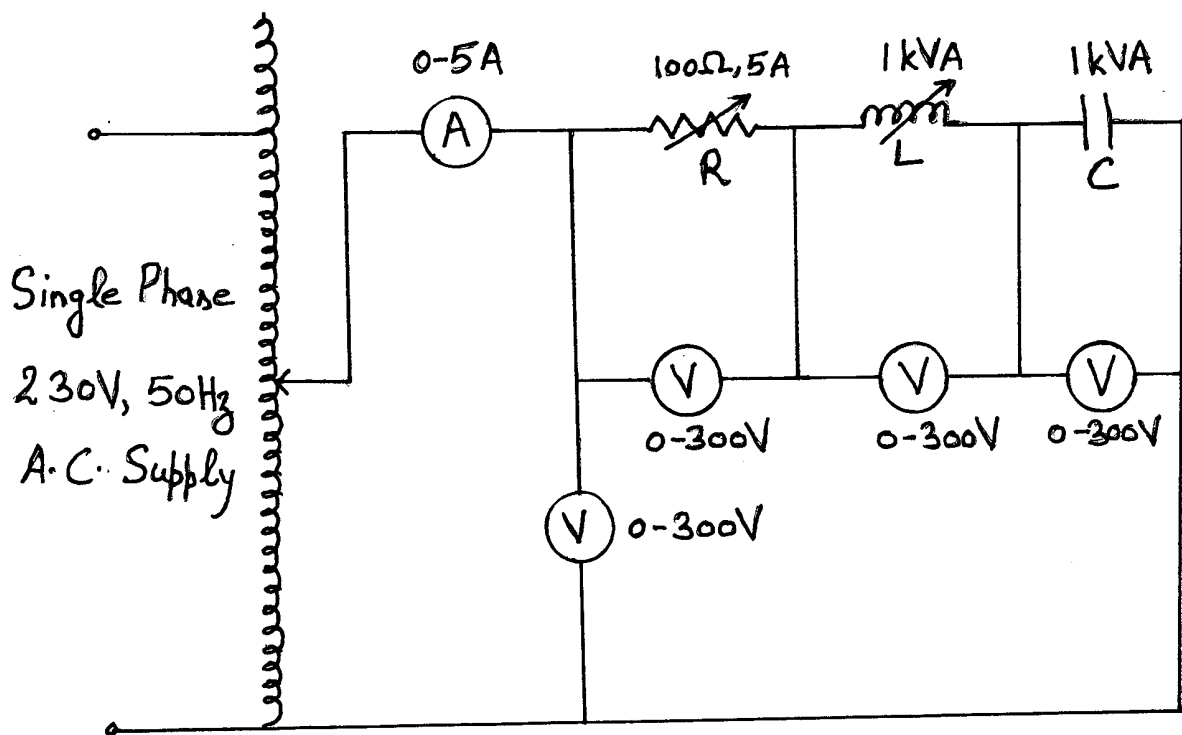

Fig. 1 Circuit Diagram
1. Connect the circuit as shown in figure 1. A variac is used as variable inductance.